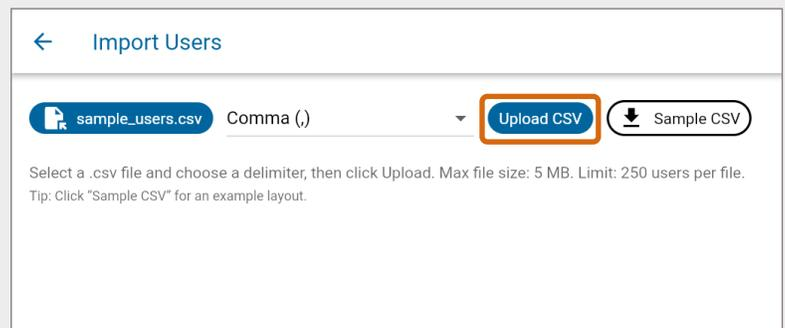

Fig. 215 – Import Users screen with Upload CSV button indicated
7. When you are ready to import the assets, select **Upload CSV**, shown in Fig. 215.